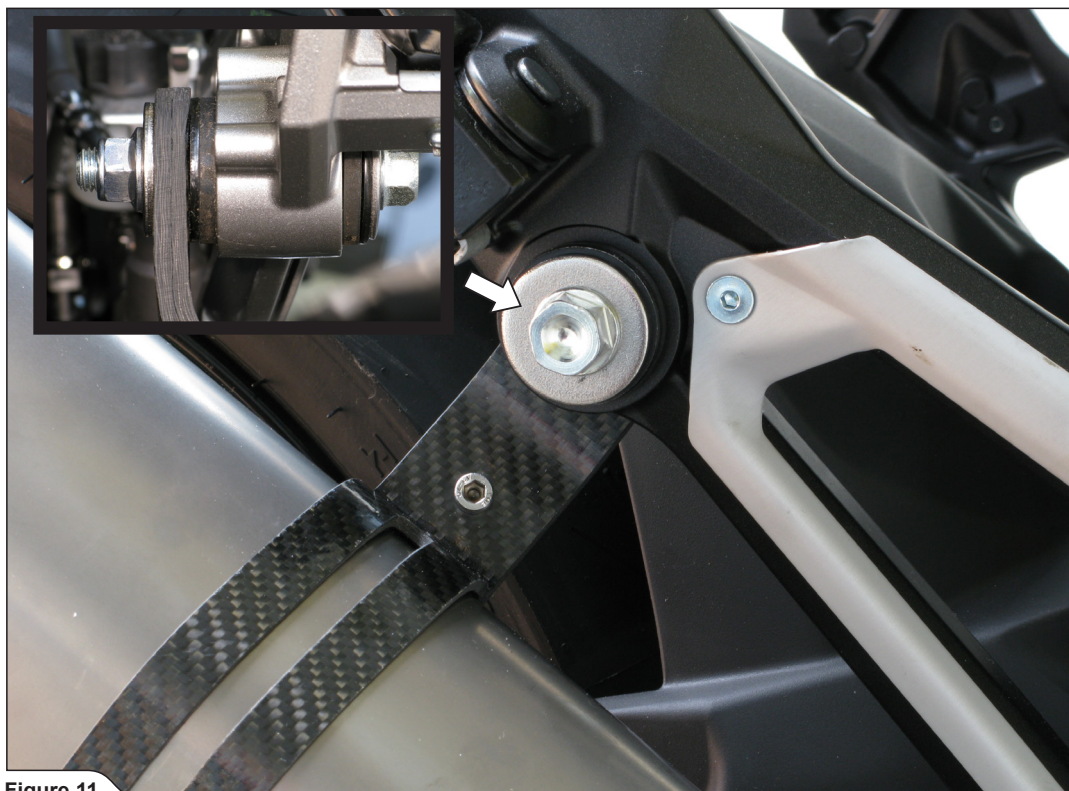

Figure 11
3. Hand tighten the clamp's bolt and clamp onto the bracket (using stock nut with Akrapovič bolt and washers from Akrapovič installation kit) (Figure 11).